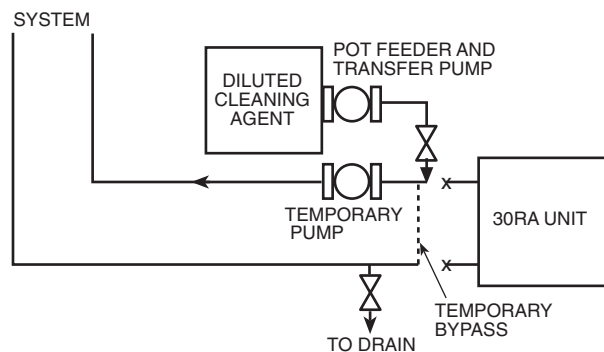

Fig. 13 — Typical Set Up for Cleaning Process
1. Install a temporary bypass around the chiller to avoid circulating dirty water and particulates into the pump package and chiller during the flush. Use a temporary circulating pump during the cleaning process. Also, be sure that there is capability to fully drain the system after cleaning. (See Fig 13.)